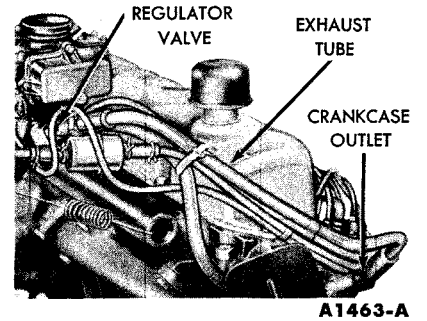

FIG. 27—Regulator Valve and Exhaust Tube
1. Remove the crankcase ventilation exhaust tube by disconnecting the exhaust tube from the crankcase ventilation outlet and from the regulator valve assembly (Fig. 27).
On an engine with positive crankcase ventilation, disconnect the exhaust tube at the regulator valve and crankcase outlet (Fig. 27). Remove the regulator valve.